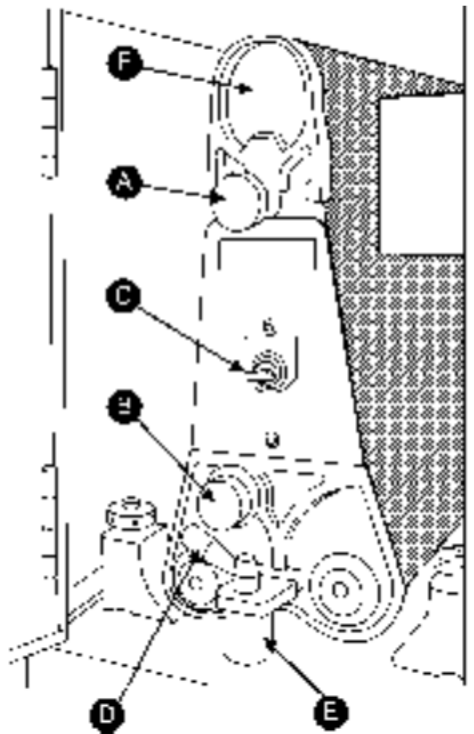

FIGURE 2
2. If the oscillation time to the right is 1 second, but the oscillation time to the left side is longer, then loosen the tracking adjustment lever (A), Figure 2, and move it to the left until proper tracking is achieved. When satisfied, tighten the lever.
2. Shut "OFF" the air valve switch (C), Figure 2.
3. Remove the lock screw (D) by turning it counter-clockwise.
4. Remove the spacer block (E).
6. Insert new belt by starting first on the top tension roller (F), then the contact roller. Center the belt while avoiding contact with the limit switch fingers that are located on each side of the belt.
7. Replace spacer block (E) and tighten lock screw (D).
8. Turn "ON" the air valve switch (C).
Adjust the platen position with the platen adjustment knob, (see B, Figure 2). Turn it clockwise to lower the platen, counter-clockwise to raise it. Each revolution of the knob is 0.2 mm.